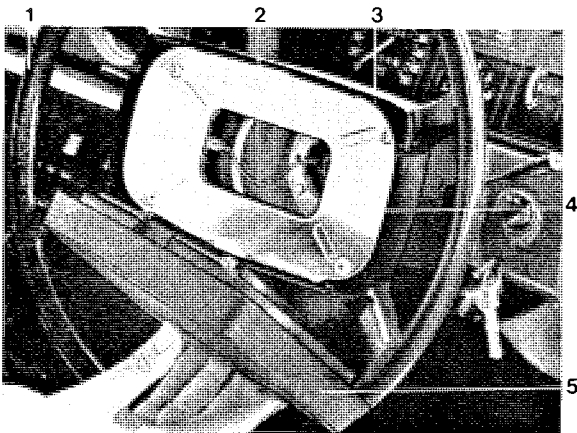

Fig. 6-52. Steering wheel components
1. Lever loose the impact pad (5, Fig. 6-52).